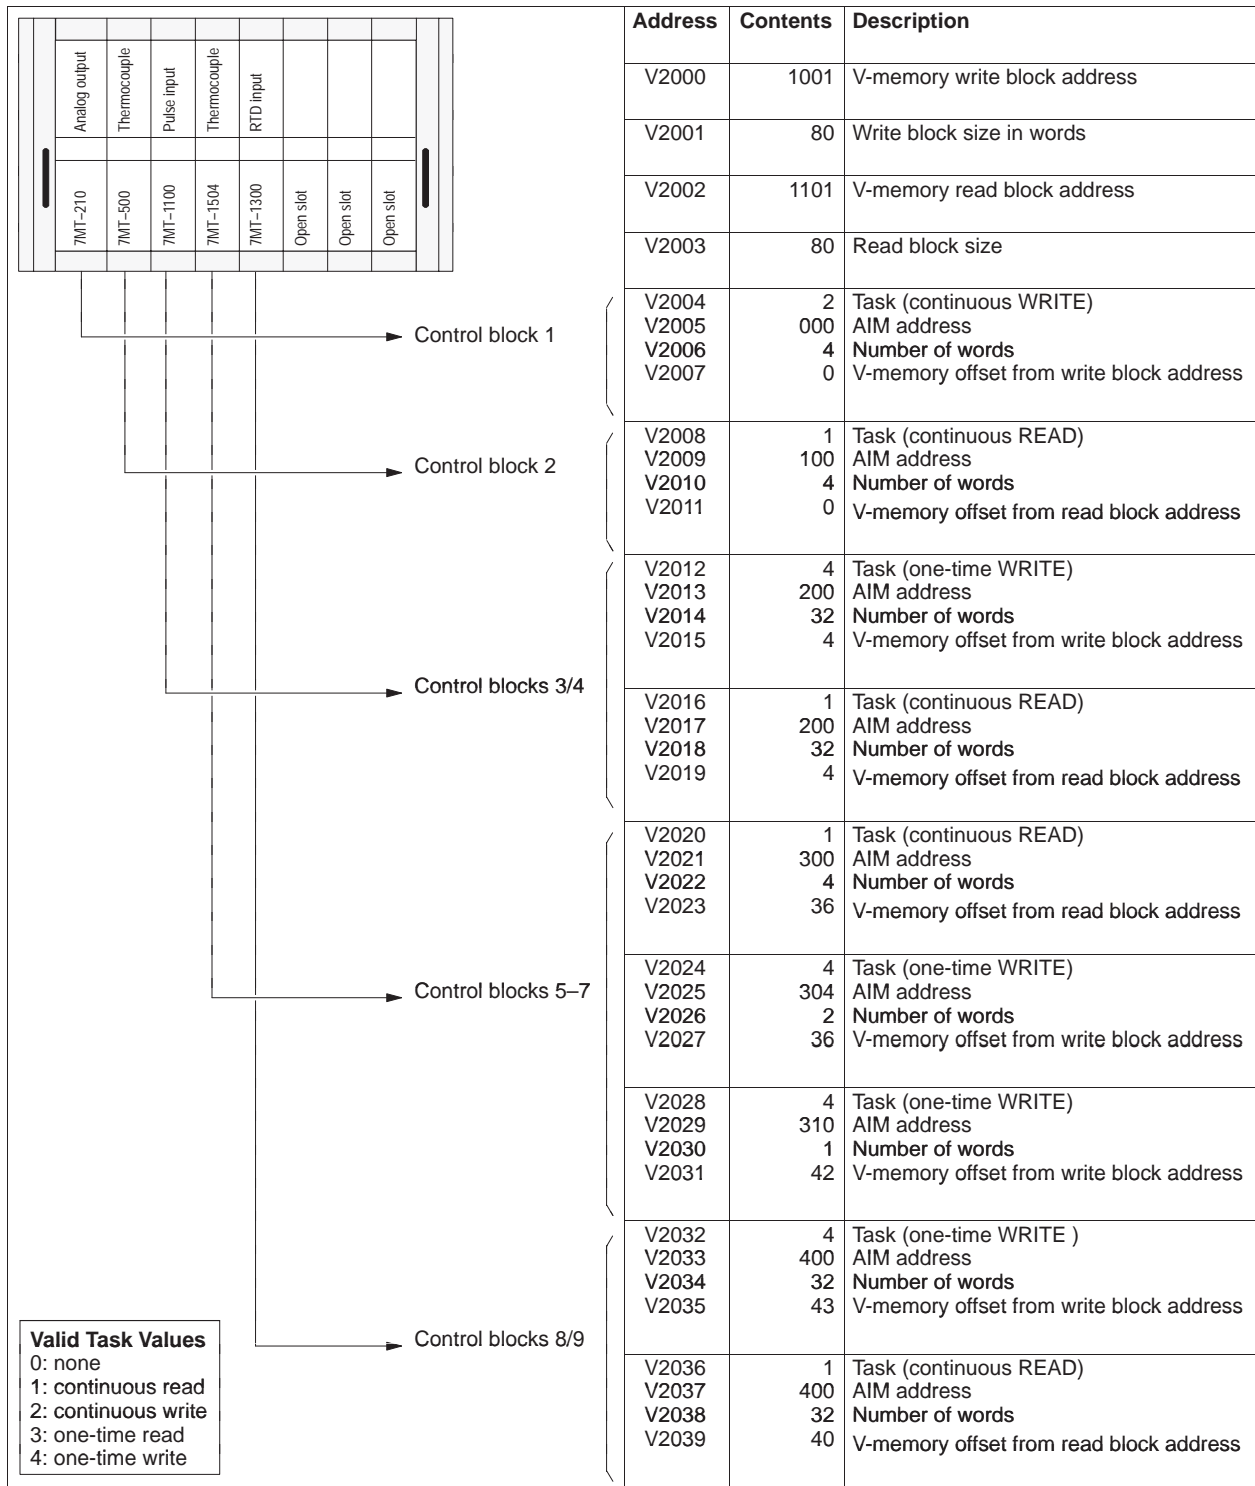

Figure 1-4 Configuration Example
- **TASK** is a value of 0–4 that defines which type of data operation to perform. See *Valid Task Values* in Figure 1-4.
All 7MT modules require at least one control block to operate. Other modules, especially those that are configured through software rather than jumper selection, may require as many as three control blocks. Figure 1-4 shows an example 7MT base and its associated control blocks with the configuration table V-memory beginning address at V2000. Note that for every configuration table defined, the minimum configuration size is 196 words. The configuration table beginning address and the next 195 consecutive addresses must only be used for valid configuration table information.